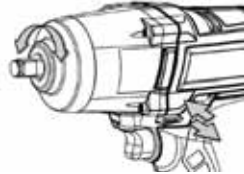

Fig. 2
4. For reversing the machine, (See Fig. 2) use the forward / reverse rod on the drive unit. The directions of the rotation are also shown on the face of the bar.